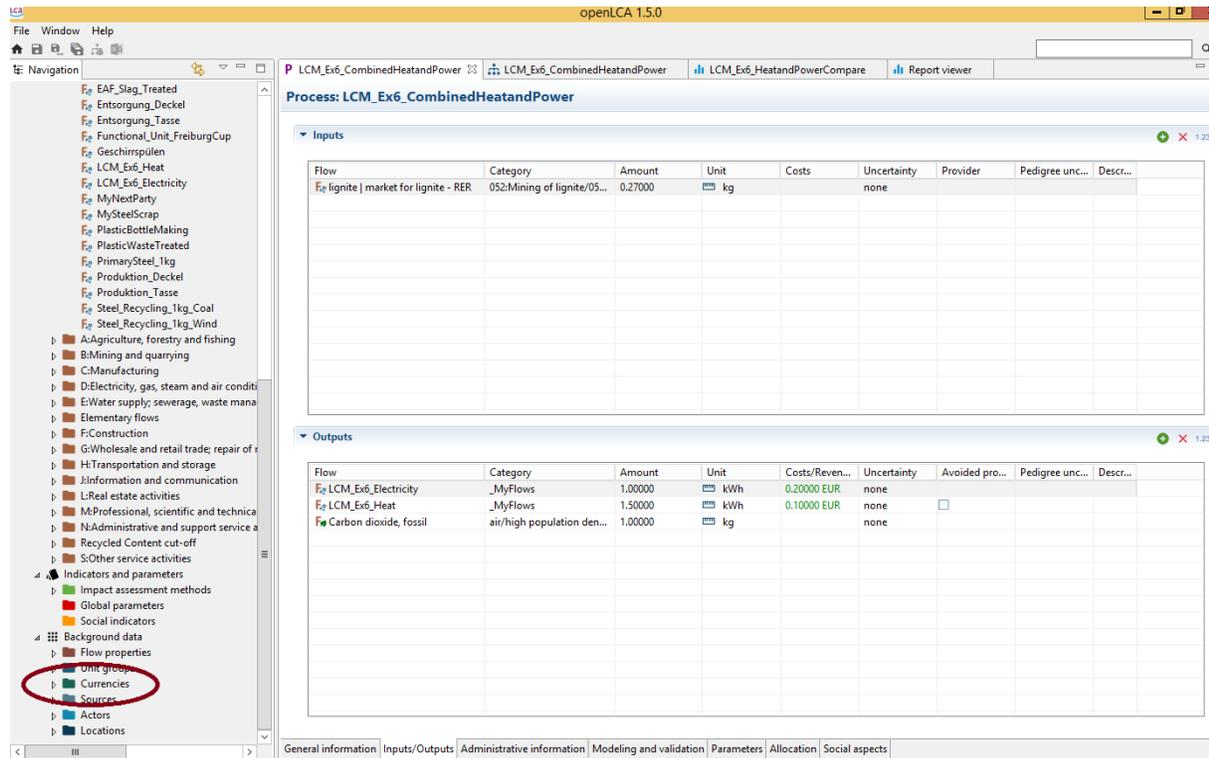

Figure E6.7: Input-output panel of the exemplary multi-output process.
**Task: 1)** Create a process description in openLCA as shown in Fig. E6.7 below, using the information supplied in the text. **2)** Determine the carbon footprint of the electricity generated for both physical and economic allocation, *both by hand and with openLCA* (The carbon footprint of 1 kg of lignite group 051: “lignite | market for lignite” is 0.01955 kg CO2/eq per kg (pre-calculated)). **3)** Interpret your results! Use the ReCiPe Midpoint Hierarchist impact assessment method without long-term effects.
**Hint:** To enter prices the currency “Euro” must be created by adding it to the currency group in the main menu (bottom left in Fig. E6.7).